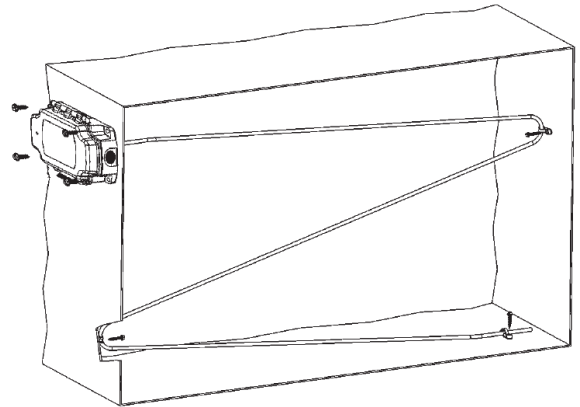

Figure 3: Flexible Sensor Horizontal Mount (Best for Vertical Stratification)
1. Place the sensor in the middle or top of the duct as shown in **Figs 3 and 4** and drill the probe and mounting holes as depicted for the enclosure being used.